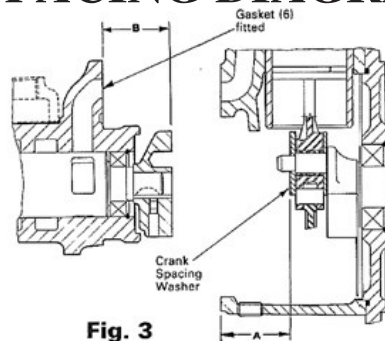

Fig. 3
Please refer to (Fig. 3) Measure dimension (A) from the crank washer to the face of the engine case and also dimension (B) from the rotary valve face to the inside of the gasket. Select the correct shim washer from the list (31—34) to obtain clearance.